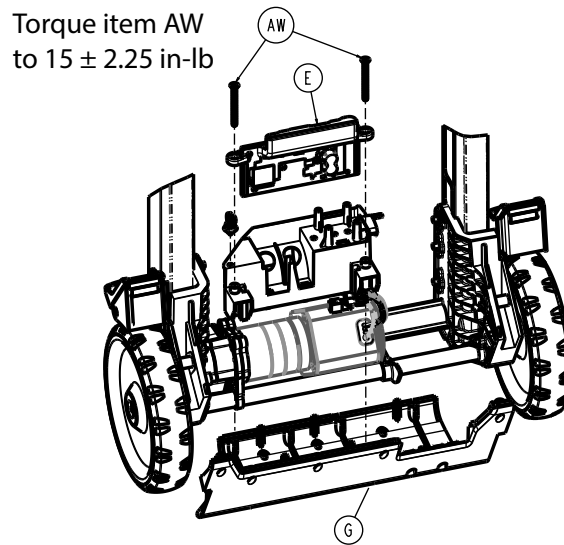

Figure 12 –
2. Using a 1/8" hex wrench, remove the two flat countersunk head cap screws (AW) that secure the power box PCBA (E) to the power box lower cover (G) (Figure 12). Save the power box lower cover and screws.